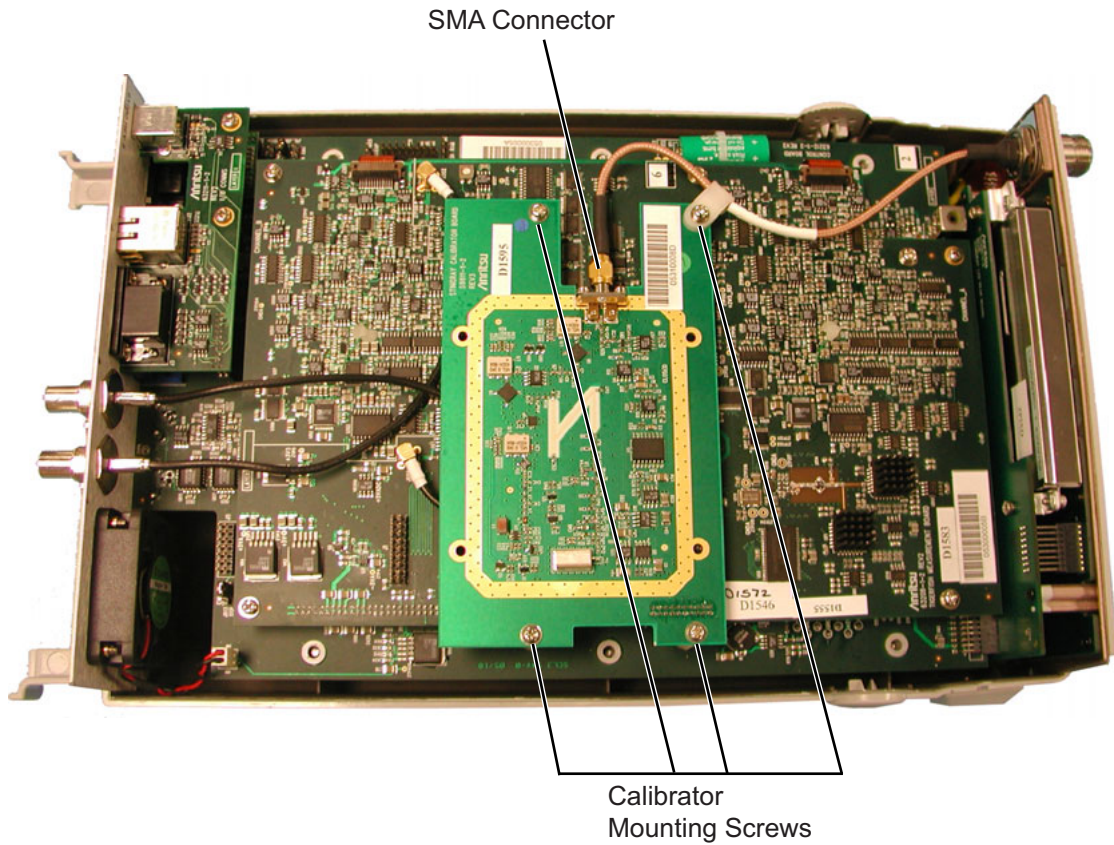

Figure 6-2. 1 GHz Calibrator Removal
3. Remove the four screws and washers that mount the calibrator PCB to its support standoffs, then remove the SMA connector. See Figure 6-2.